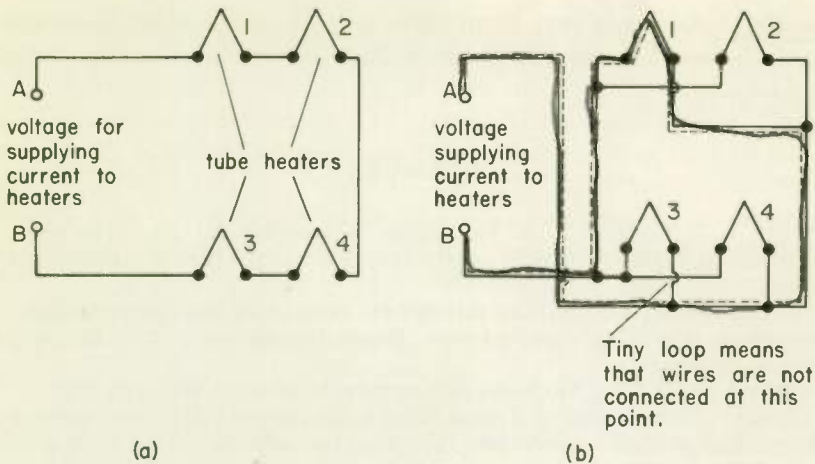

Fig. 3
8. The tubes in a radio or TV receiver sometimes have their heaters connected in series and sometimes in parallel. The tube heaters in Fig. 3(a) are connected in (a) SERIES. Each heater requires a current of 200 mA. Therefore a current of (b) 200 mA will be drawn from the voltage source that supplies the heater current.
9. To see how the heaters in Fig. 3(b) are connected, start at voltage-source terminal *A* and with your pencil point try to trace along a path that will take you through heater 1 and back to voltage-source terminal *B*. The dashed line shows the path that you will have to take. Notice that you did not trace through any of the other heaters. Now trace from *A* through heater 2 back to *B* in a similar manner. Do the same thing with heaters 3 and 4. If in every case you are able to go from *A* through the heater being considered and back to *B* without passing through any other heater, then the heaters are connected in (*series*)(parallel).
10. If in Fig. 3(a) you trace from *A* through heater 1 and back to *B*, you (*need*)(*need not*) also pass through heaters 2, 3, and 4. This verifies that the heaters of Fig. 3(a) are connected in (b) SERIES.
11. Each heater in Fig. 3(b) requires a current of 200 mA. How much current will be drawn from the voltage source that supplies the heater current? 800 mA